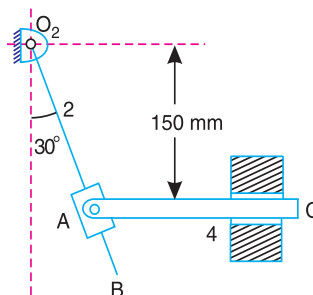

Fig. 8.46
11. The mechanism as shown in Fig 8.46 is a marine steering gear, called Rapson's slide.  $O_2B$  is the tiller and  $AC$  is the actuating rod. If the velocity of  $AC$  is 25 mm/min to the left, find the angular velocity and angular acceleration of the tiller. Either graphical or analytical technique may be used.